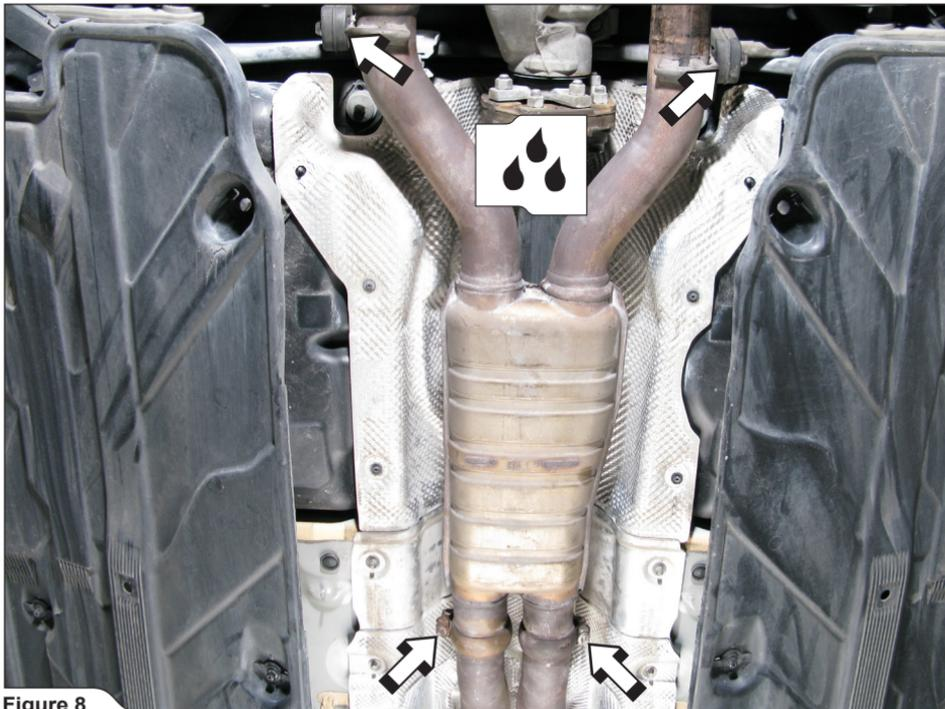

Figure 8
7. **For Evolution only:** unscrew the marked spherical clamps and pull the rubber brackets off the pipes (Figure 8).